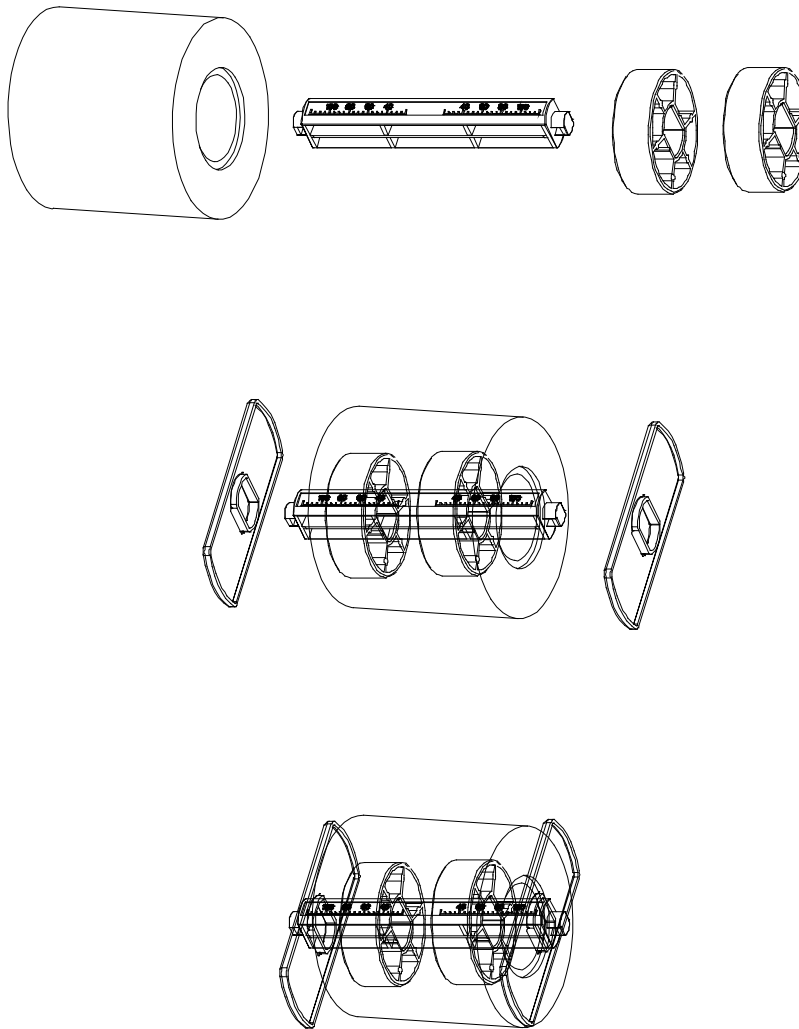

Figure 6-2
2. Load a roll of media (labels facing up) on the Media Spindle, then slide the two Media Roll Guides, with smooth sides facing toward the media, onto the Media Spindle from each end until snug against the media. When placing a roll of media with a 3" ID core, please slide the two Core Adapters onto the Media Spindle first (see Figure 6-2).